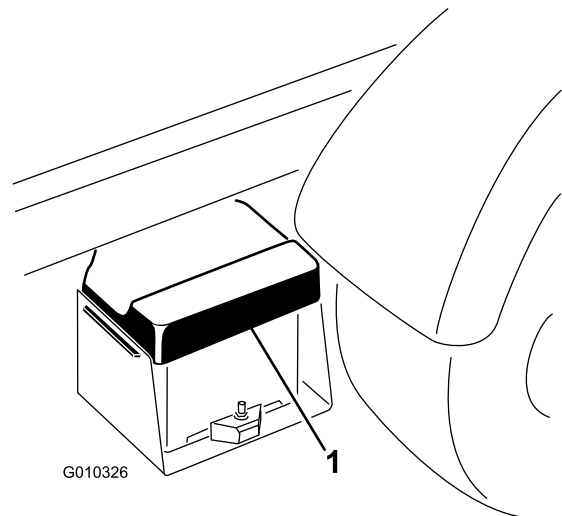

Figure 5
1. Squeeze the battery cover to release the tabs from the battery base (Figure 5).
2. Remove the battery cover from the battery base (Figure 5).
- 6. Align the battery cover to the battery base (Figure 5).
- 7. Squeeze the battery cover, align the tabs to the battery base, and release the battery cover (Figure 5).